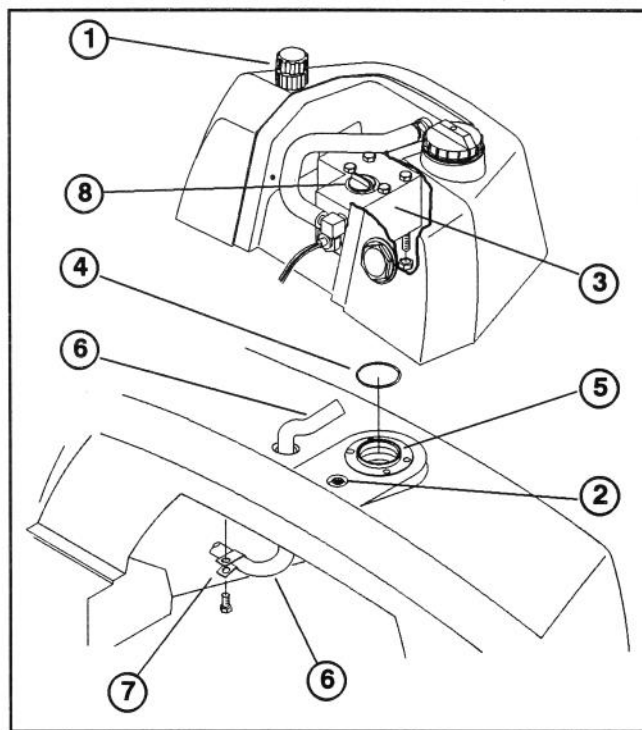

Figure 3
5. Install breather and breather extension into top of auxiliary tank and pipe plug into top of main hydraulic tank (Fig. 3).
9. Remove and discard (4) locknuts from bottom of manifold block (Fig. 3).
10. Remove (4) protective insert plugs from main tank fill neck. Clean mating surfaces of block and fill neck with a clean, dry rag. Carefully place O-ring from loose parts over fill neck boss.
11. Route wire harness through access hole in main tank and align manifold block with fill neck as shown in figure 3.
12. Secure (4) manifold block mounting capscrews to main tank fill neck.
14. Secure leak detector harness to underside of auxiliary tank with R-clamp and 6 mm capscrew as shown in figure 3.
15. Remove fill cap from top of manifold block (Fig. 3). Carefully fill the float cavity to within 1" of top of threads. Do not overfill. Replace and tighten fill cap.